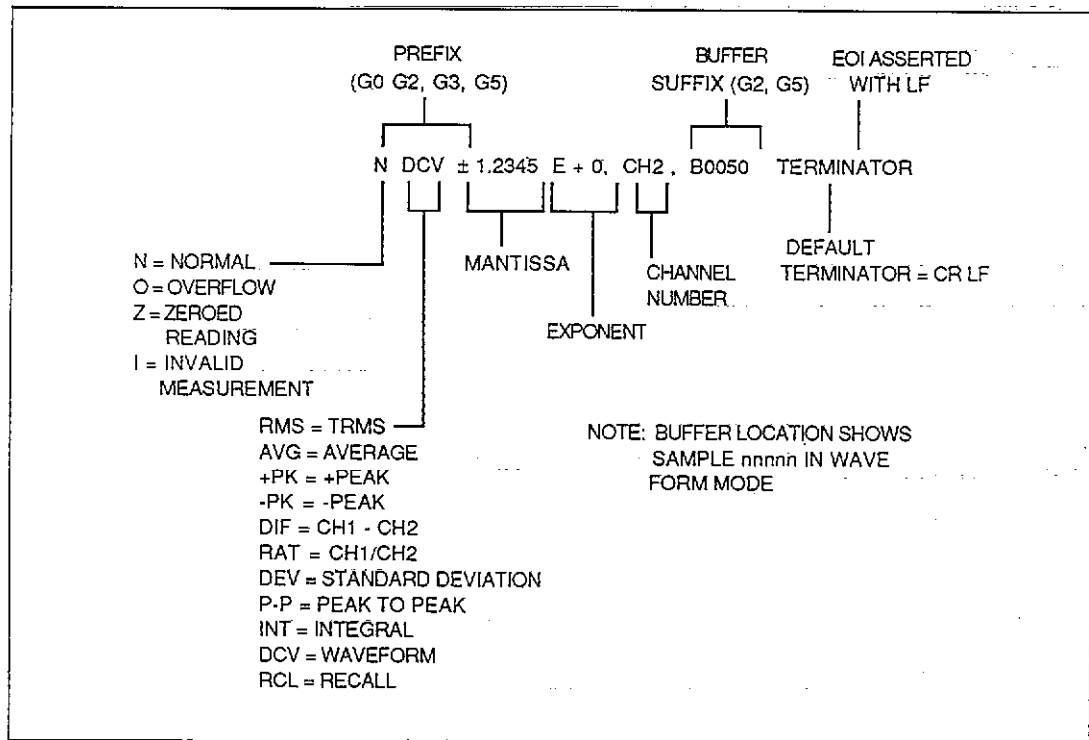

Figure 2. ASCII Data Format
Note that the immediate trigger mode is used in this instance, so it is not necessary to trigger the unit to process a measurement; however, with other trigger modes, it will be necessary to trigger the unit before the unit will collect samples. Once those samples are stored and processed into a reading, the data is requested and displayed on the computer CRT as follows (see Figure 2 for ASCII data format):
1. Before sending programming commands to the instrument, select the desired channel by sending C1X for channel 1, or C2X for channel 2. Doing so will ensure that the commands you send will affect the desired channel. Note that some commands such as data format (G), SRQ (M), and terminator (Y) affect both channels, so it is not necessary to select the channel before using them.
2. The two channels share a common IEEE-488 output and reading buffer. As a result, there is no way to dictate which channel has the current output when both channels are running simultaneously. Thus, it will be necessary for you use the channel suffix in the data string (Figure 2) to determine the source of the data. Alternatively, you can use the reading buffer for storage and request data later.
3. If one channel is not being used, it should be disabled by sending a trigger command for a trigger stimulus that will not occur. For example, if you are not using external triggering, send the command string C1XT7X to disarm channel 1, or send C2XT7X to disable channel 2. Turning off an unused channel will accomplish two things: (1) maximize throughput for the channel being used, and (2) make sure that data comes only from the channel in use.